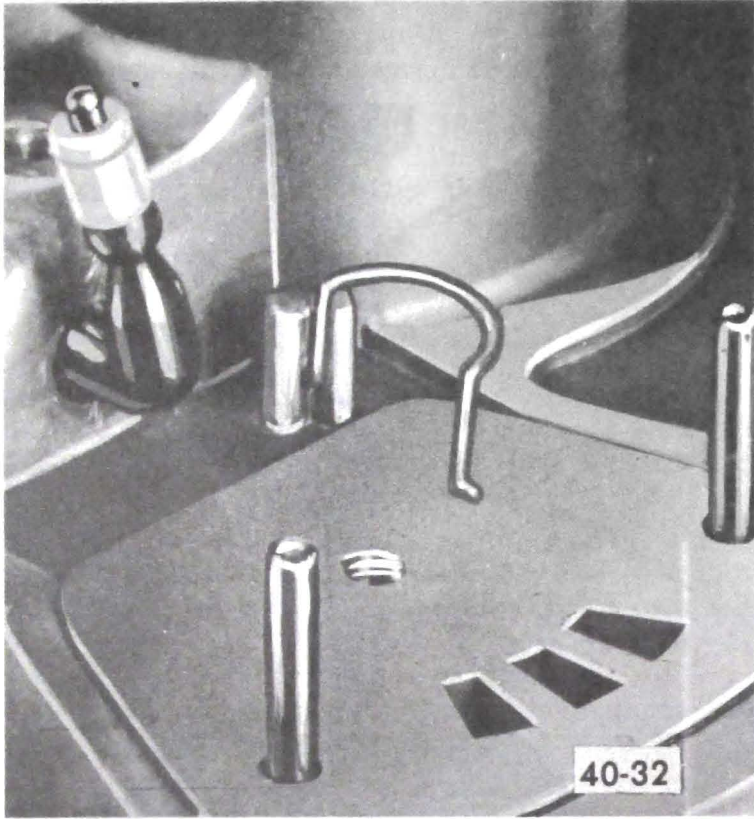

Figure 40-40 - Installing Valve Tension Spring in Boss
3. Install longer foot of valve tension spring in boss on first stage housing being careful not to distort spring. See Figure 40-40.